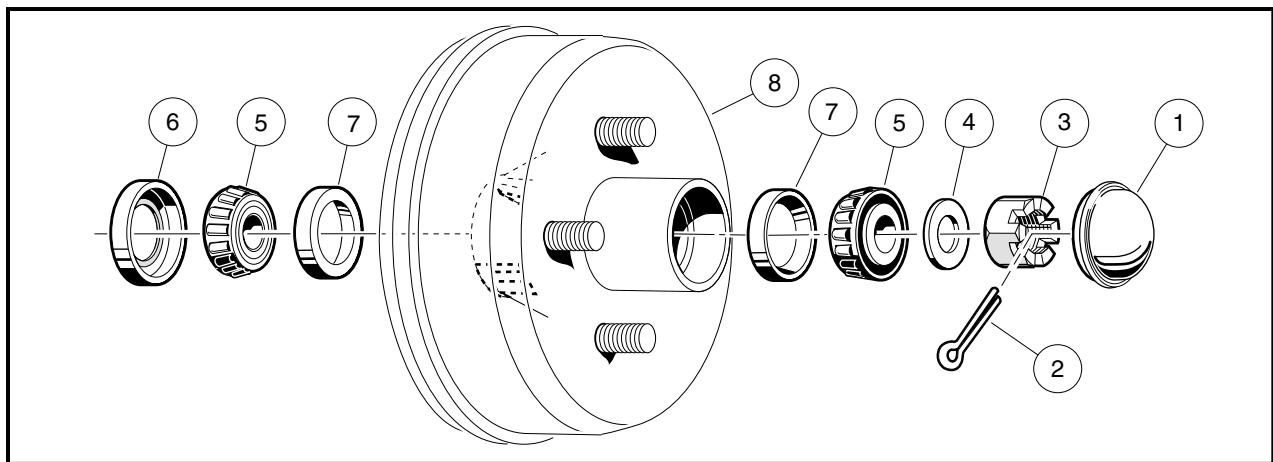

Figure 6b-4 Front Spindle and Brake Drum Assembly
- 4.2. Remove the cotter pin (2) (**Figure 6b-4, Page 6b-9**).
- 4.3. Remove the castle nut (3), large flat washer (4), wheel bearing (5) and drum (8) from spindle (**Figure 6b-4, Page 6b-9**).